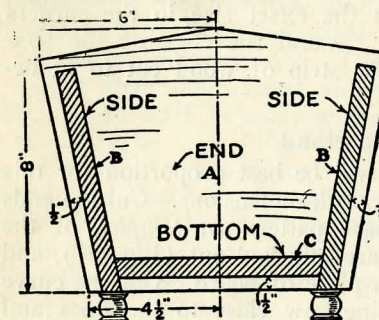

Fig. 45
The completed box is not shown, but Figure 45 gives the pattern for the end pieces (A) and the positions of the sides (B) and the bottom (C). Use one end piece for a pattern when cutting the other. Cut the sides and bottom the same length, which will be determined by the size you wish your box.